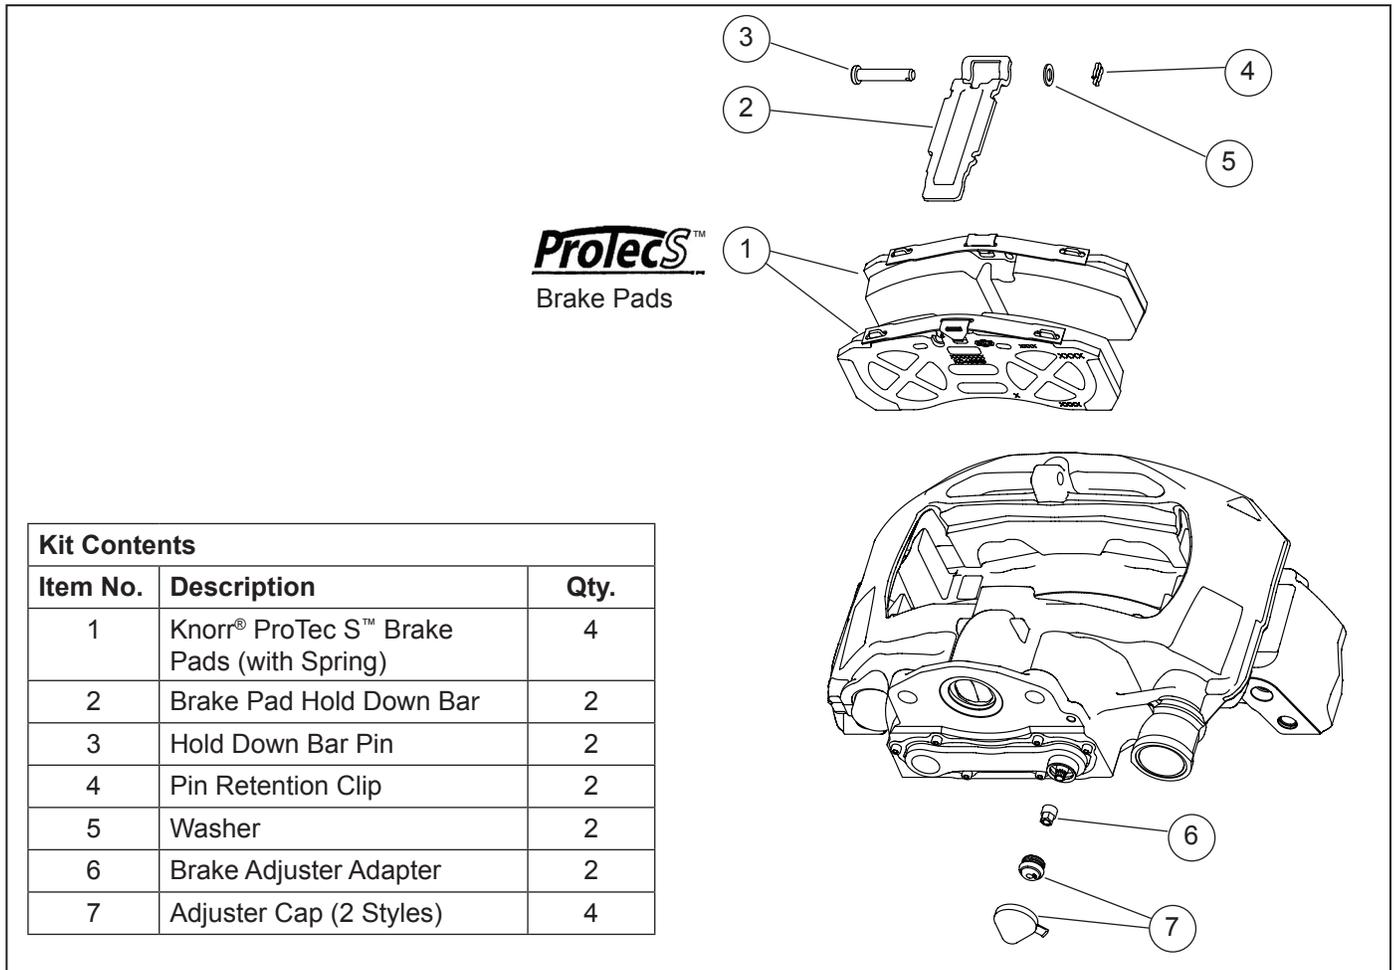
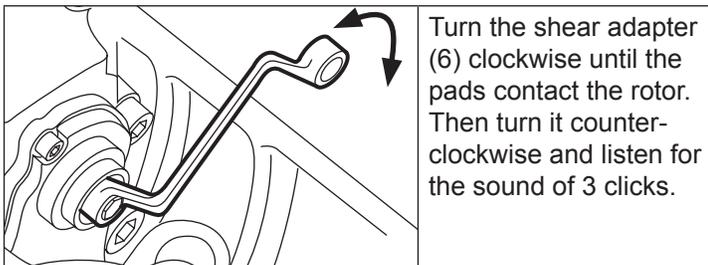

Figure 1 – Air Disc Brake Pad Replacement Components
Figure 7 – Running Clearance Adjustment
4. Using a 10 mm, 6-point box wrench, turn the brake adjuster adapter (6) **clockwise** until the pads contact the rotor. Note: Do not use an open-ended wrench as this may damage the adapter. (See Figure 7).
5. Using the same tool, turn the brake adjuster adapter (6) **counterclockwise** and listen for the sound of three clicks as the mechanism backs-off (increases) the running clearance. (See Figure 7).
6. Select the correct replacement adjuster cap (7) from those supplied with the kit. Lightly grease the adjuster cap (7) with Renolit® HLT2 white grease (part number I I14525) and install the cap.
7. Push the new pad retainer bar (2) into the groove of the caliper. Press down on the pad retainer bar (2), and insert the pad retainer pin (3), with the pin pointing downwards, where possible. Install the supplied washer (5) and then the spring clip (4). (See Figure 1).